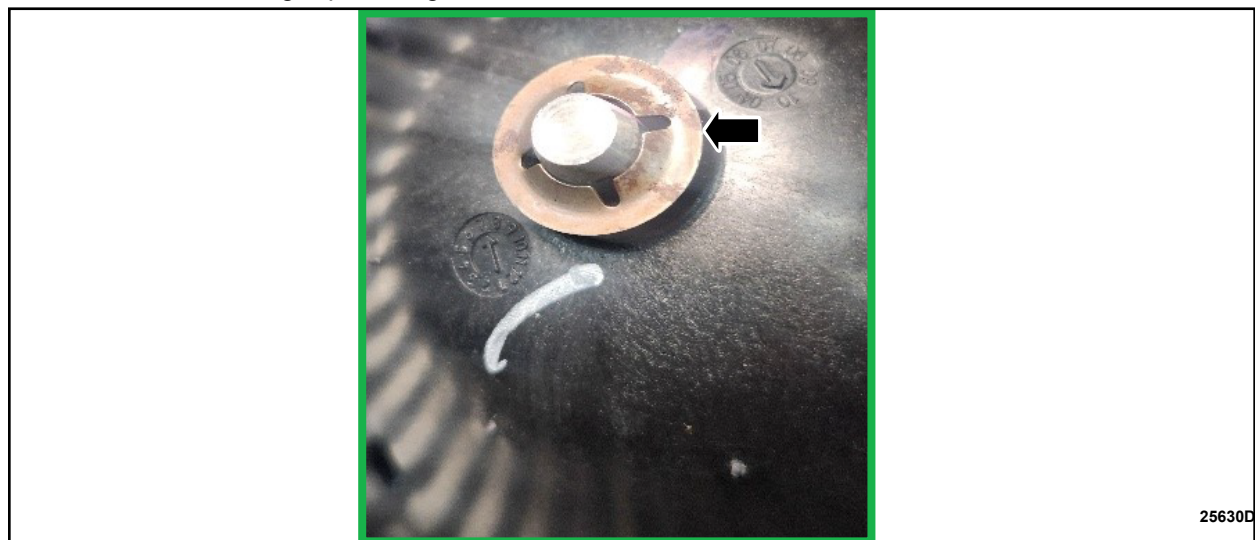

FIGURE 4
7. Install a *new* retaining clip. See figure 4.